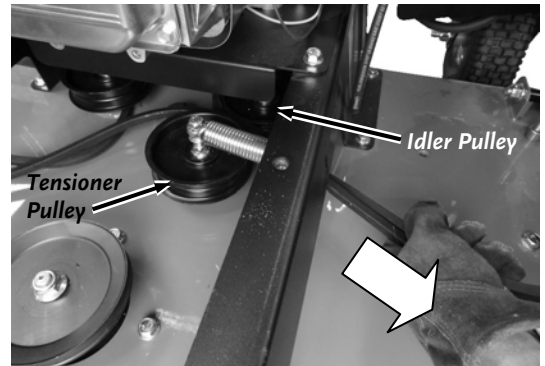

Figure 50
10. **Mow Pro-60 model only:** Move the Belt up off the other Pulleys and remove the Belt between the Tensioner Pulley and left side Idler Pulley (**Figure 50**).